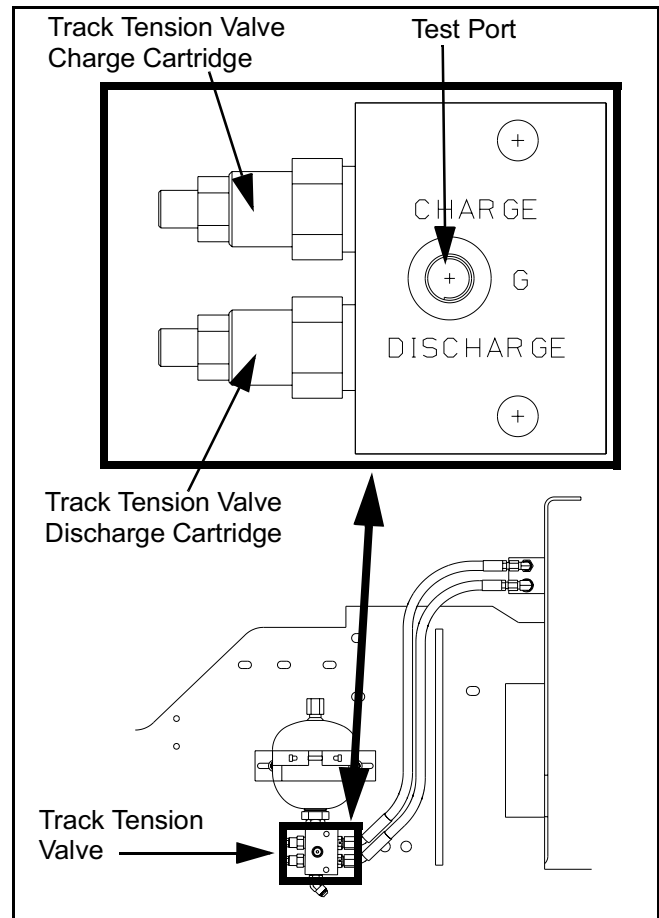

Figure 4 - 33 Release 300 Series Rubber Track Tension
- 5) Tighten jam nut on track tension valve discharge cartridge (Figure 4 - 34).